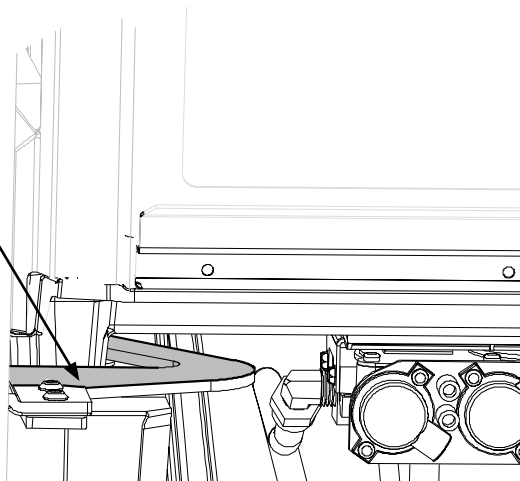

Figure 7.9.
- **Label A:** apply to the Lower Door Hinge. Fig. 7.9.